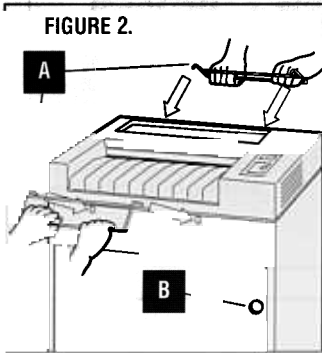
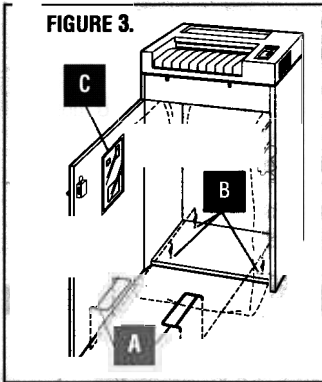

FIGURE 2.
FIGURE 3.
1. Using the hand grips (FIGURE 2.A) provided, place the shredder head onto the top of the cabinet. The control panel may face toward the front or back of the cabinet.
2. Open the door by pressing on the door knob (FIGURE 2.B) and place the hand grips (FIGURE 3.A) into the holes found in the cabinet floor (FIGURE 3.B).
5. After reading the operating instructions, slide them into the holder (FIGURE 3.C) and close the door.